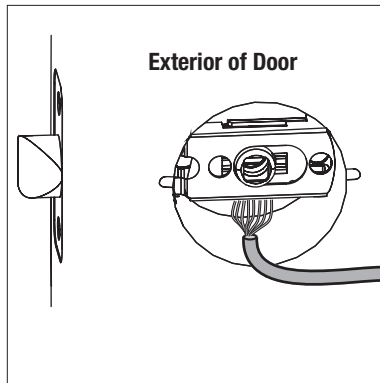

Figure 4
- From outside of door, position the exterior escutcheon by first routing the wire harness through 2-1/8" diameter hole and **under** the latch (Fig. 4 & 5), then inserting the through posts* and tailpiece/square drive tube into the latch (Fig. 5).
NOTE: Wire harness goes **under** latch (Fig. 4 & 5).